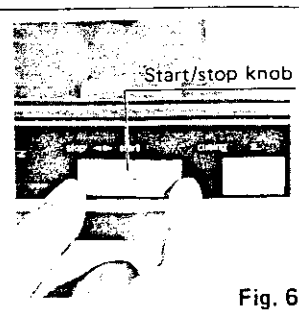

Fig. 6
3. Set the start/stop knob to the "start" position. (See Fig. 6). (In this case, the "memo-repeat" knob will move to "1" first, but it will automatically return to the "0" position after play has begun.) The tonearm will move automatically over the lead-in groove and descend slowly onto the record (auto-start). Play will begin.